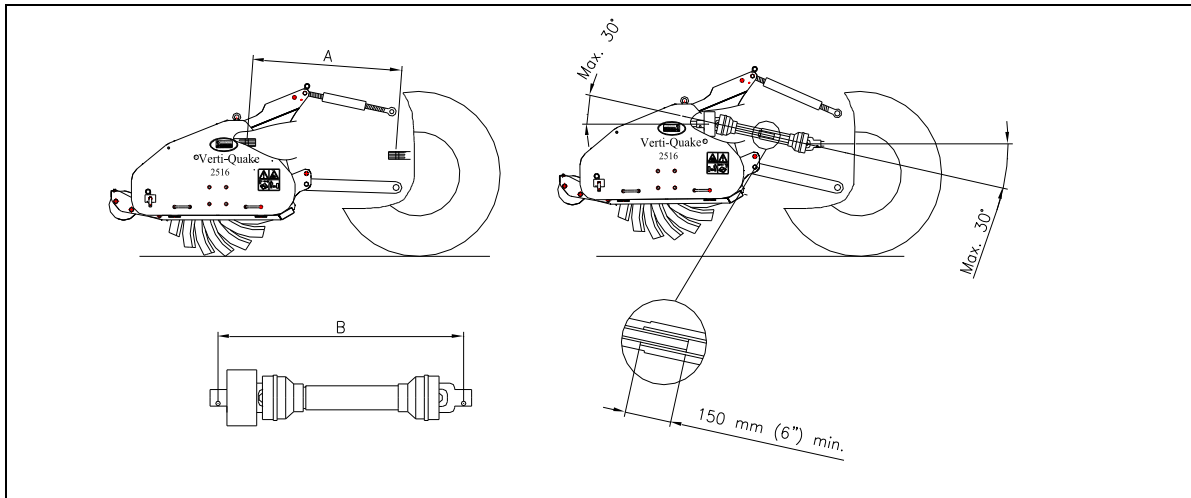

Fig. 9
4.1 LENGTH OF THE PTO (fig. 9)